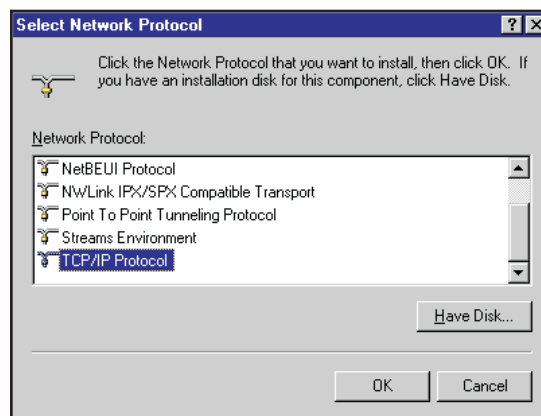

Figure 181 Select Network Protocol
3. It is now time to add the TCP/IP protocol. Select the Protocols notebook tab on the Network Settings screen and press the **Add** button to bring up the Select Network Component Protocol dialog (Figure 181).